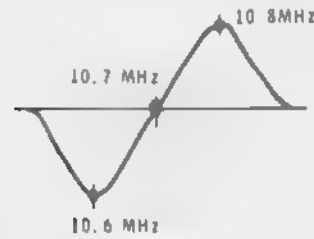

Figure 18
- () Use the same markers as stated above and align the discriminator according to the manufacturer's instructions. For this adjustment, the Generator output should be high enough so limiting will occur. Figure 18 shows the correct response curve for the discriminator.